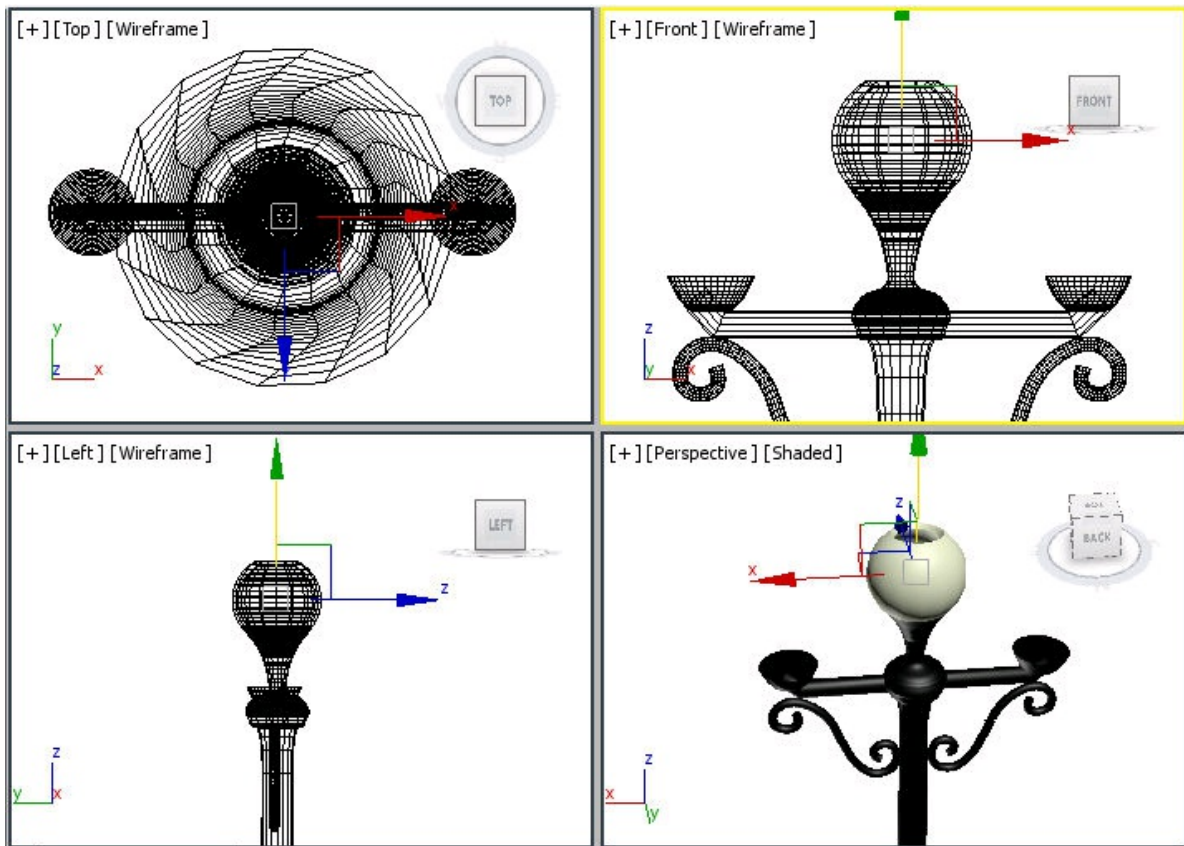

Figure 6-68 The dome01 aligned in the viewports
2. Rename the arc as *dome01*. Apply the **Lathe** and **Shell** modifiers to *dome01* as discussed earlier. Next align *dome01* in the viewports, as shown in Figure 6-68.